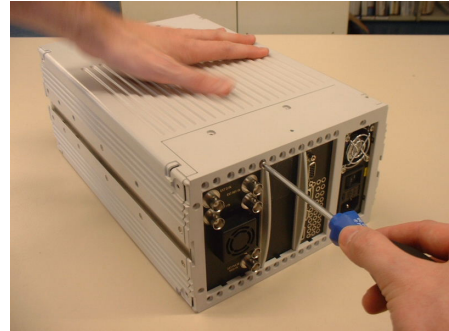

Figure 1-5
3. Undo 12 screws on rear. (see Figure 1-5) .